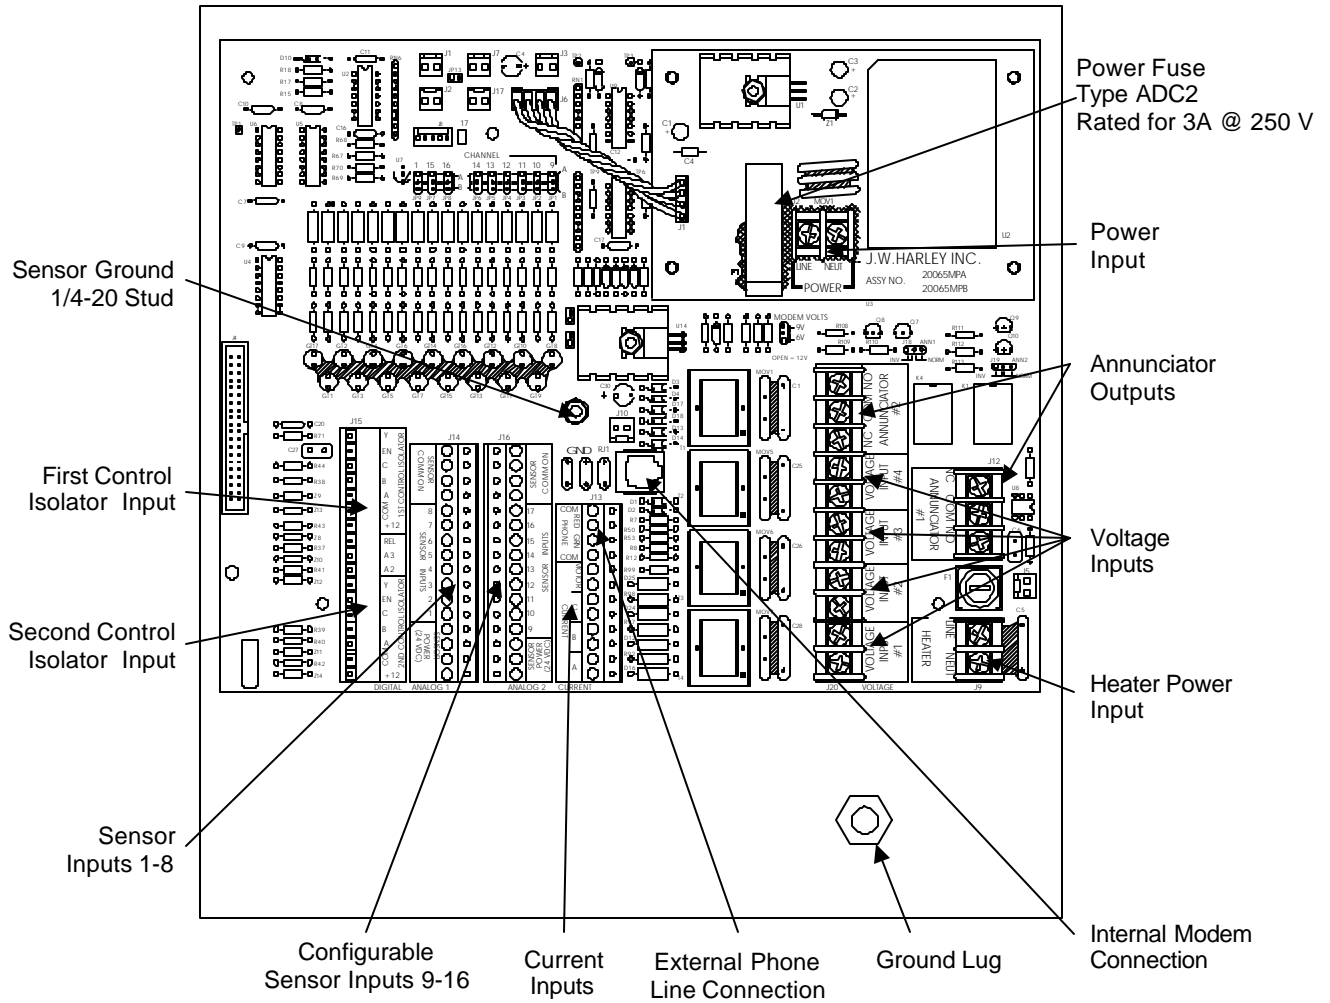
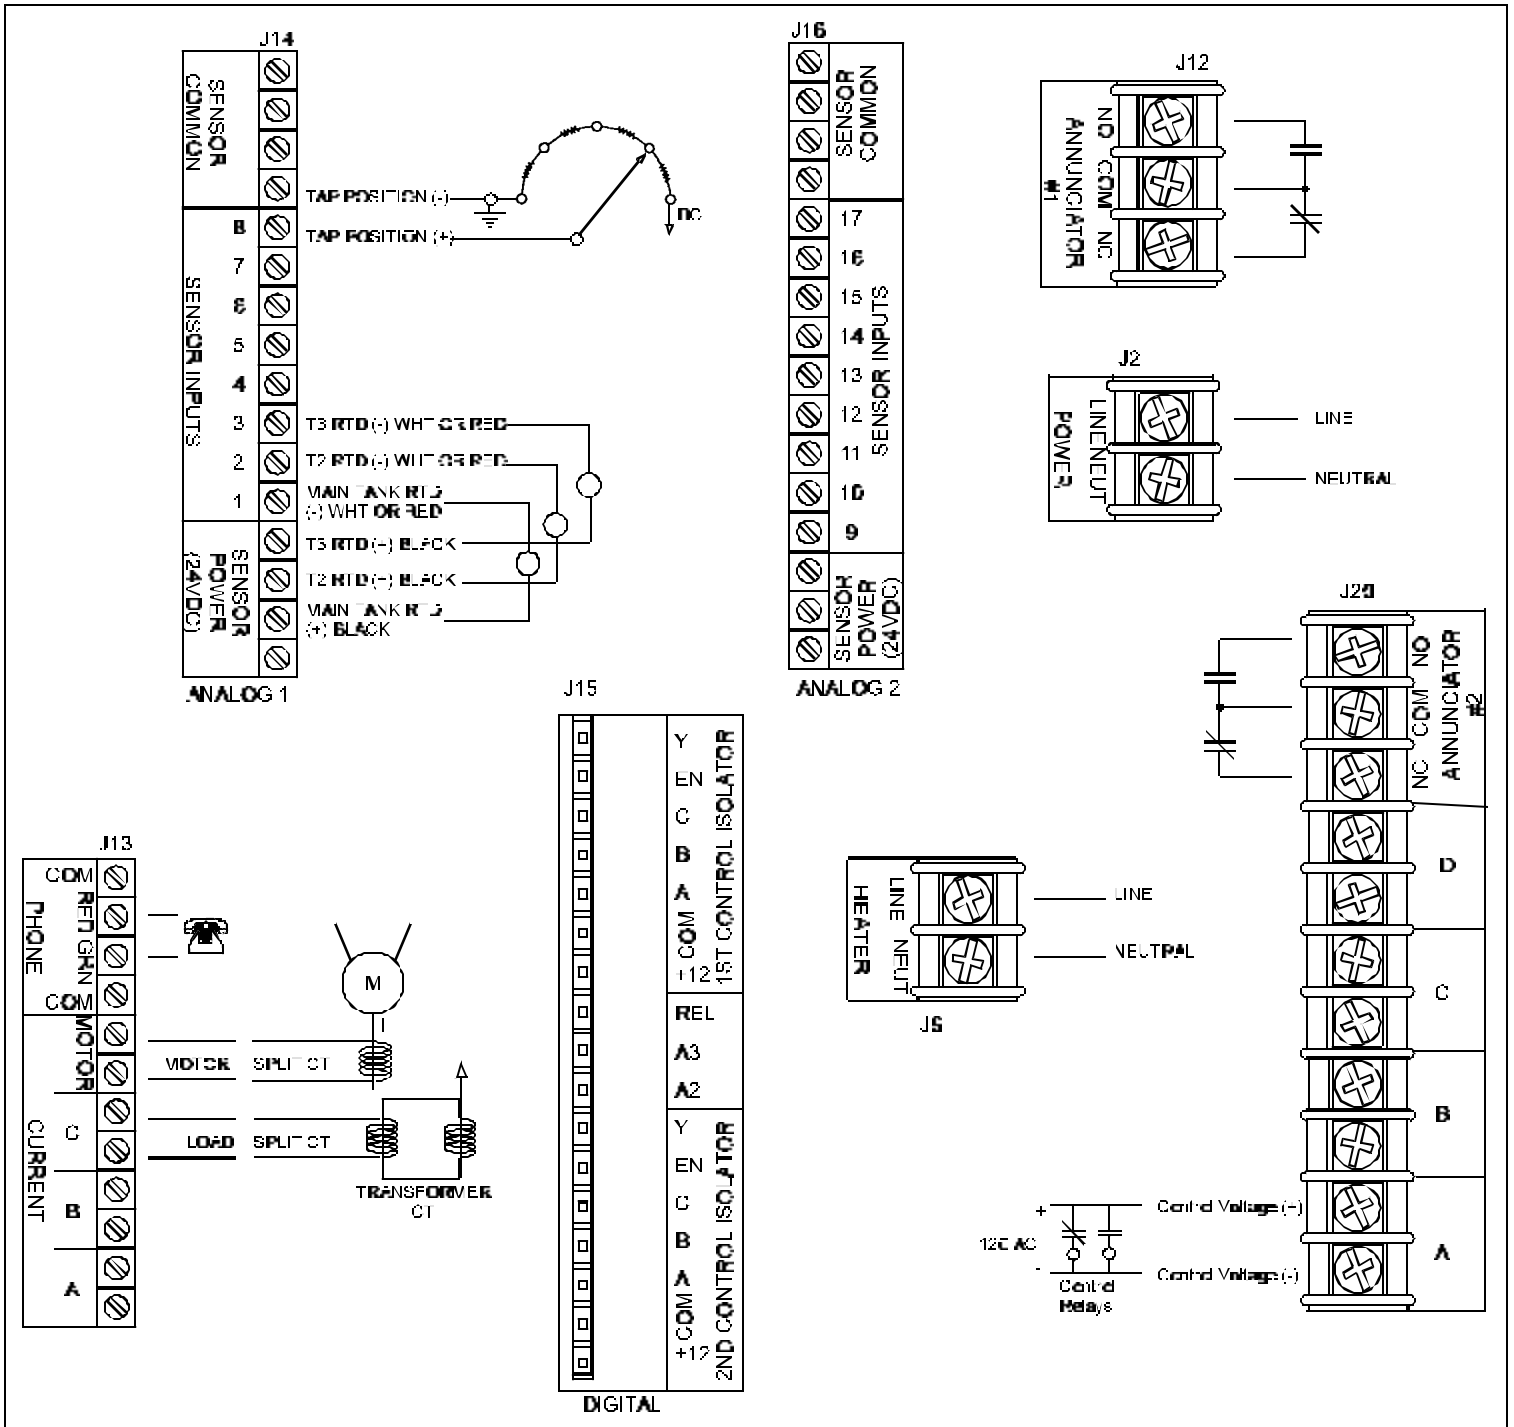

Figure 3-4: Fuse, Input Terminals, and Ground Locations
Figure 3-5: Example of a Typical Wiring Diagram for the LTC-MAP 2130
Refer to Figure 3-4 for fuse and ground lug locations.
Refer to Figure 3-4 for I/O Board Terminal Locations. Refer to Figure 3-5 for an example of a typical wiring diagram.
- Figure 3-4 provides Sensor and Input Connection locations on the I/O board.
Connect voltage signals to the designated terminals (Voltage Input #1, #2, #3, #4) on the wiring and installation diagrams. Refer to Figure 3-5 for terminal location.
Connections for unpowered CT's are not polarity sensitive. Connect the CT between the A, B, or C Current terminals (refer to Figures 3-4 and 3-5).
The LTC-MAP 2130 monitor collects output data from the Control Isolator at the digital inputs. (See Figure 3-4 for Control Isolator Input terminal locations.)
Wire the alarms by connecting the alarm activation signal to the Alarm normally opened or Alarm normally closed contacts. Refer to Figure 3-5 for Alarm Contact (Annunciator Output) locations.